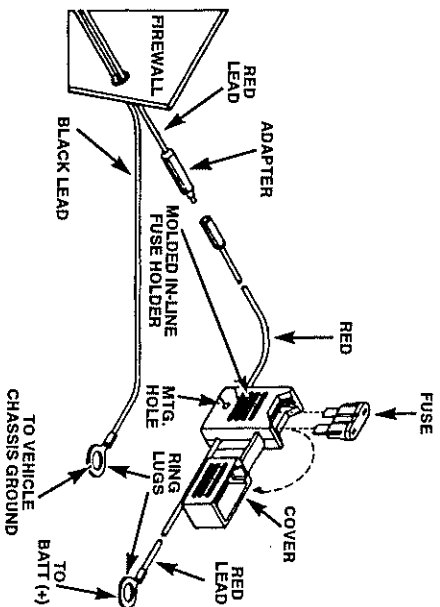

Figure 6. Power Cable Assembly
5. Install ring lugs (supplied) onto the stripped end of the power cable black lead, and onto the stripped end of the red lead on fuse holder as shown in Figure 6.
6. Position the fuse holder as close to the battery as possible and away from any hot engine component. Mount the fuse holder using the provided mounting hole and dress wires as necessary. Connect the fuse holder red adapter lead plug to the mating receptacle on the red lead of the power cable as shown in Figure 6.
9. Plug fuse into in-line fuse holder as shown in Figure 6.